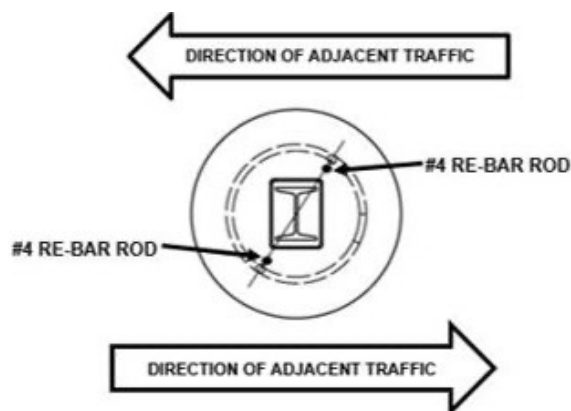

Figure 3
4. Place the rebar cage in the footing hole, ensuring a minimum of 3" [75 mm] of concrete surrounds the cage on all sides and the cage is approximately 3" [75 mm] from the top of the footing (finished grade). Place the Bottom CRP in the center of the spiral rebar cage, ensuring the top of the post is no more than 4" [100 mm] above the finished grade. See Figure 3 for the orientation of the post.
5. Place a re-bar ring (PN-5836B) around the top of the sleeve 2" to 3" [50 mm to 75 mm] from the top of the footing. Place two re-bars (PN-5919B) vertically as shown in Figure 3. If the specifying agency requires a deeper footing, the length of the vertical re-bars will be the footing depth minus 4" [100 mm]. The two vertical re-bars do not have to be attached to the ring.
- A. Lay out the four (4) precut cables. The right threaded end of the cables will be attached to the CRP. The CRP 1X (PN-5692G) starts at CRP 1X (post location 1X) and is placed on the front side (traffic side) of the line terminal posts; CRP 1 cable (PN-5817G) starts at CRP 1 (post location 1) and is placed on the back side (non- traffic side) of the line terminal posts; the CRP 2 cable (PN-5818G) starts at CRP 2 (post location 2) and is placed on the back side (away from traffic) of the line terminal posts; and the CRP 3 cable (PN-5819G) starts at CRP 3 (post location 3) and is placed on the front side (traffic side) of the line terminal posts.
- C. Place the CRP Cable Bracket (PN-33909G) on the threaded end. The angle end of the bracket is placed up (See Figure 3).
- E. Perform Steps B-D for the other three (3) cables.